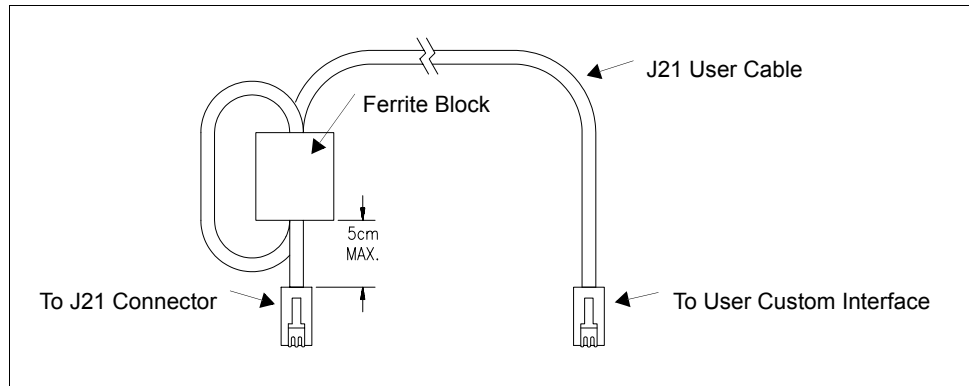

Figure 2.6 J21 User Cable with Ferrite Block
3. Loop the cable through the ferrite block. See Figure 2.6, "J21 User Cable with Ferrite Block" on page 28.